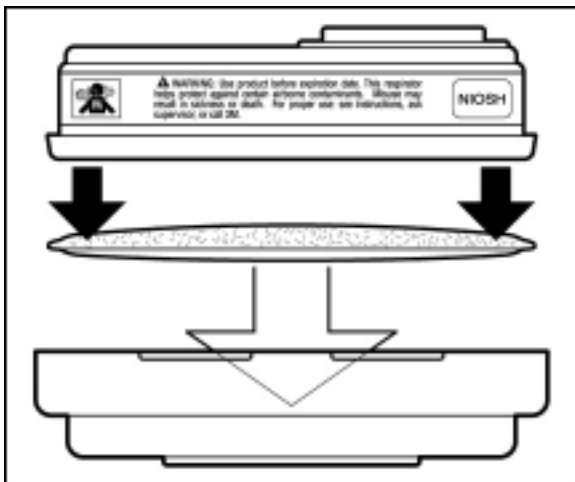

Fig. 4
2. Press cartridge into filter retainer. It should snap securely into filter retainer. When correctly installed, filter should completely cover face of cartridge. (Fig. 4)